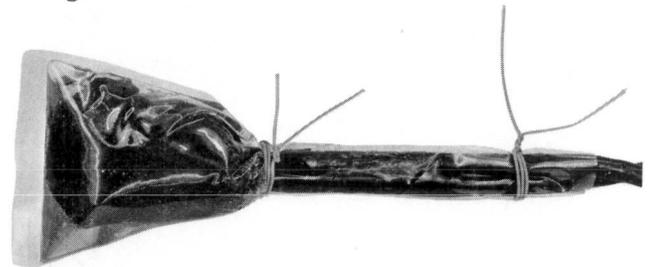

Fig. 16
- 7.07 Secure the plastic bag around the wires with tape or scrap conductor as shown in Fig. 16.